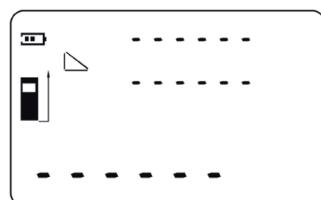

Fig. 16
1. Press the Mode button (4) to select the single Pythagorean Theorem measurement mode (fig. 16).